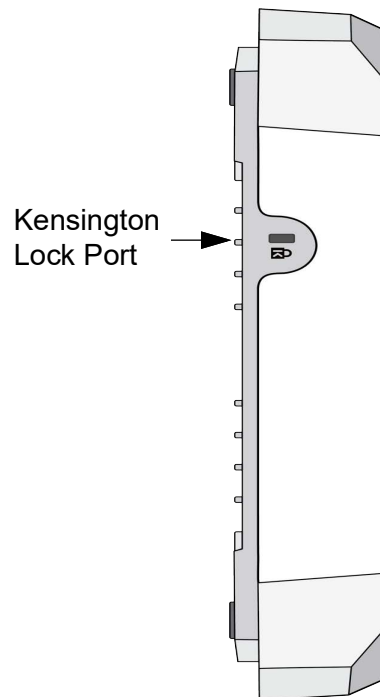

Figure 26. Kensington Lock Port Location
1. Follow the instructions provided with the vendor's anti-theft device for the installation. See Figure 26 for the Kensington lock port location.